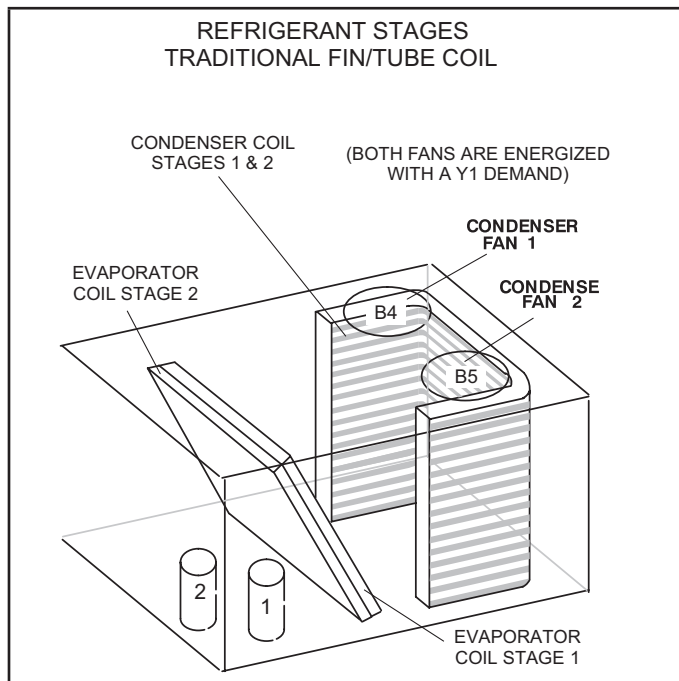

FIGURE 26
### B-Cooling Start-up See FIGURE 26
- 3 - Units have two refrigerant circuits. See FIGURE 26.